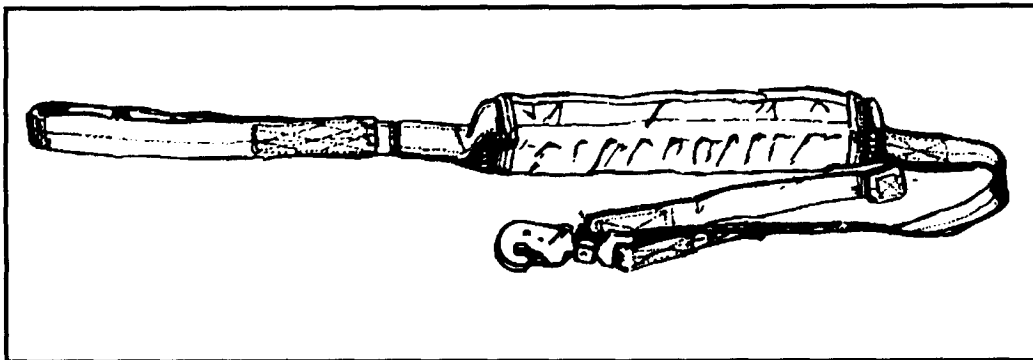

Figure 12-53. HPT lowering line stowed.
To attach the quick-release snap, the parachutist attaches it to the quick-release link that is routed through the D-ring. The opening gate should face away from the pack (Figure 12-53).
(1) S-fold the lowering line neatly on top of the web inside the retainer, ensuring that the ends are stacked evenly with the retainer flap outer edges. Secure the pile tab on the web located at the ejector snap end to hook extension on retainer.
(2) Fold the hook side of the flap tightly over S-folded lowering line and, holding it firmly, fold the pile side of flap over and secure hook and pile together.
(3) Secure the pile extension on the flap retainer to the hook tab at the loop end of the lowering line (Figure 12-53).